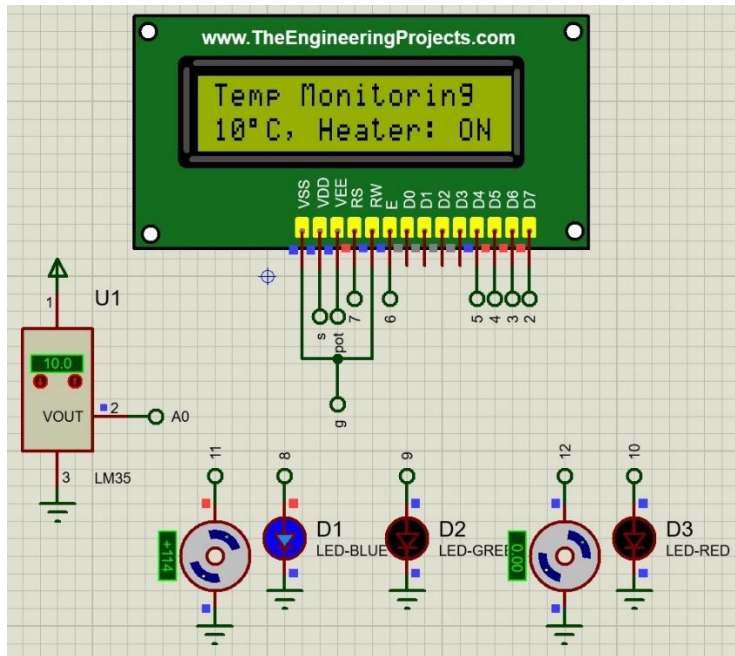

Figure 3 – Cold Temperature
- In Figure 3, it is shown that the lcd display is at cold temperature reading and displays that the heater motor is turned on. Cold temperature reading range is 19 degrees Celsius and below. Also, the blue LED is on indicating that the temperature is COLD.